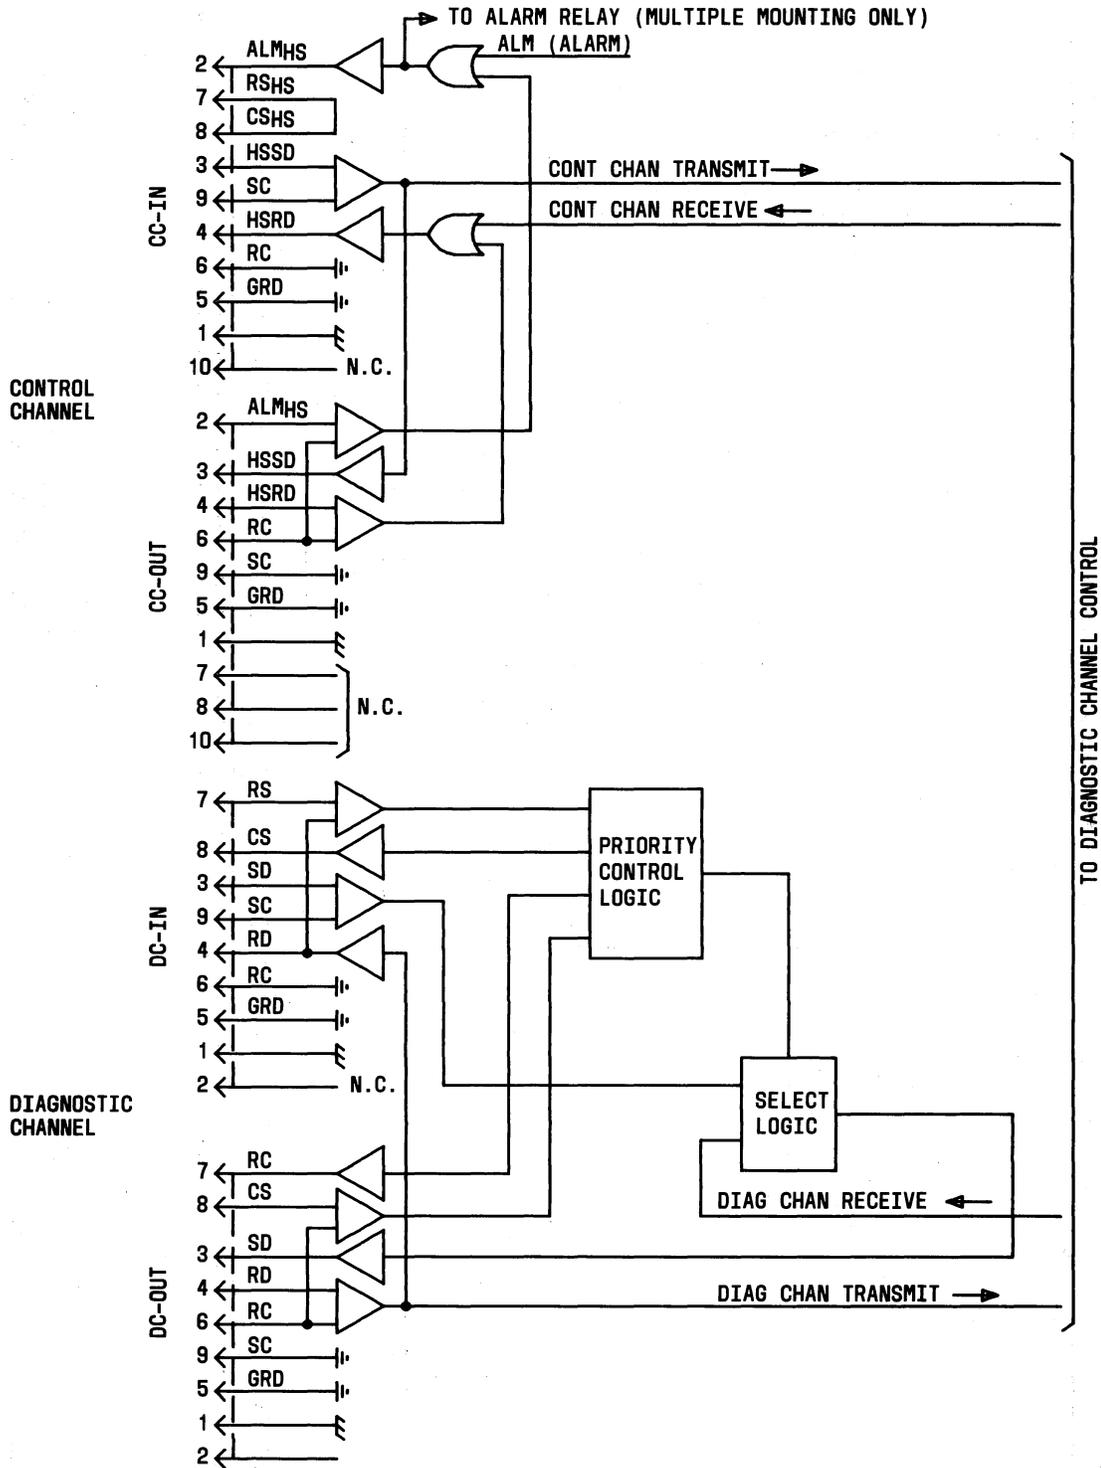

Fig. 15—Control Channel and Diagnostic Channel Interface Circuits
**3.46** The control channel interface is a 1200 bps daisy-chain arrangement permitting diagnostic and control signals to flow from DCDs downstream to all data mountings at the same location. This interface also provides a common alarm for the mountings. Figure 15 shows the control channel interface circuits.
3.50 The diagnostic channel interface consists of a 9-pin male connector (DC-IN) and a 9-pin female connector (DC-OUT) shown in Fig. 3 and 5. The connector pin numbers and the corresponding lead designations and functions are shown in Table L for DC-IN and Table M for DC-OUT. Figure 15 shows the diagnostic channel interface circuits.